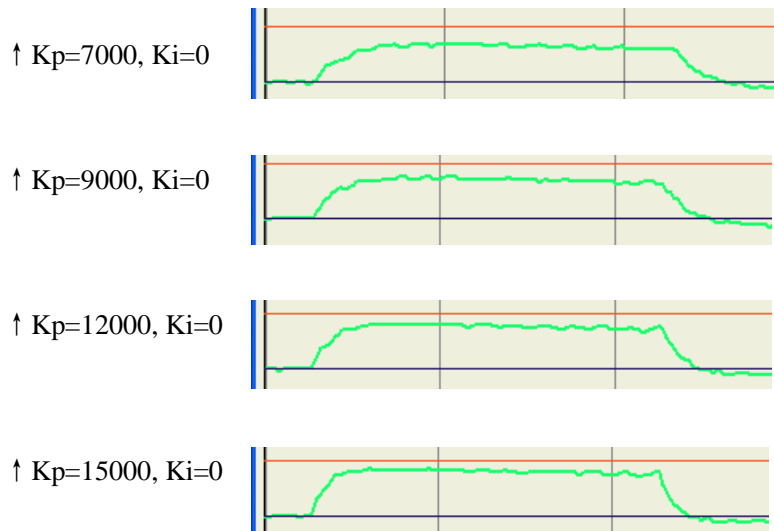

Figure3-4: Current loop tuning with with  $K_i=0$  and increasing  $K_p$
**Step 4:** Give  **$K_p$**  7000, 9000, 12000, 15000 and click **Start**, respectively. The green curve is getting more and more close to the red curve. See figure 3-4.